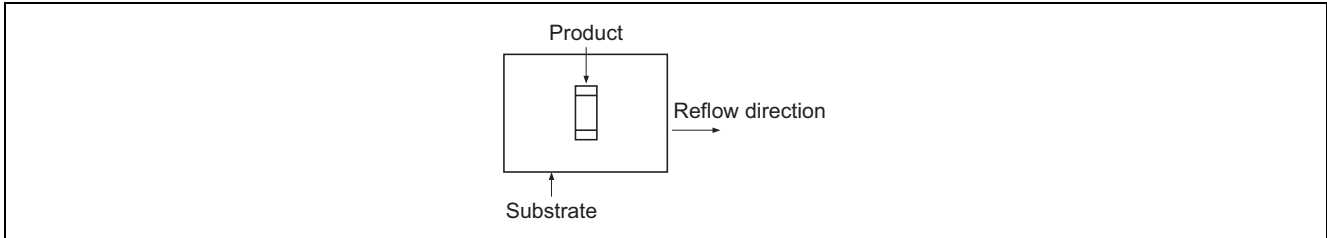

Figure 9
- (4) Compared with other diffuse junction diodes, the SMD Schottky barrier diode is exceptionally prone to damage by static electricity, so it is needed to protect these diodes.
- (5) When targeted for use under severe environmental conditions, SMD diodes should receive a moisture-proof coating after assembly on a PCB. It is advisable to coat the circuit board to protect it against external debris and moisture [see 2.5 (2)].
- (6) Using a mounter to fix SMD diodes to a PCB can result in bending of the leads, so make sure that a force of no more than 3 N is applied. And also required to not apply superfluous force on the package or leads as being mounted, especially for UFP, SFP, EFP, TURP, VSON-5T, MFP12, MP6 Series package and the package with halogen free resin.
- (7) When the SMD is mounted through reflow soldering, avoid incorrect positioning and floating-type failures due to bad mounting balance by taking care on the following points.
- Heat must be applied to both soldering sections at the same time (the direction shown in figure 9 is recommended).